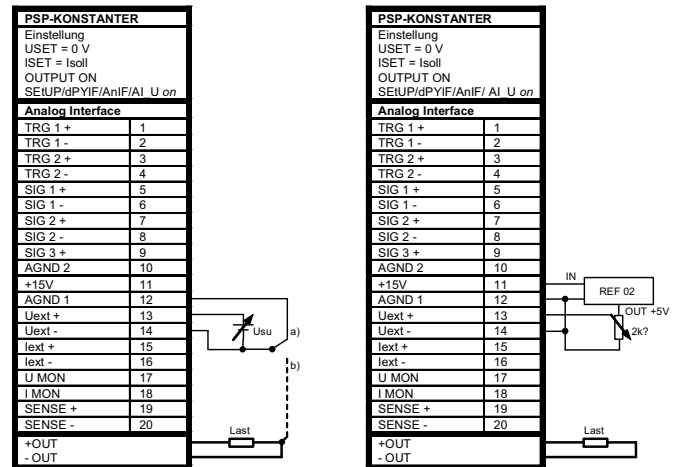

Figure 7.4 Wiring for Controlling Output Voltage with External Voltage / External Potentiometer
- The control inputs are not floating inputs: Their reference point, AGND (1), is connected to the negative pole of the power output.
- If the reference point of control voltage U_{su} is connected to the negative output pole at the load side, the inverting input must be connected to this point (connection b in figure 7.4). Influences resulting from voltage drops in the output lead are thus avoided.
- If control voltage is isolated from the output, connect U_{ext-} to AGND (1) (connection a in figure 7.4).
- If remote adjustment of output voltage is to be accomplished by means of a potentiometer, wiring can be laid out as shown in figure 7.4.